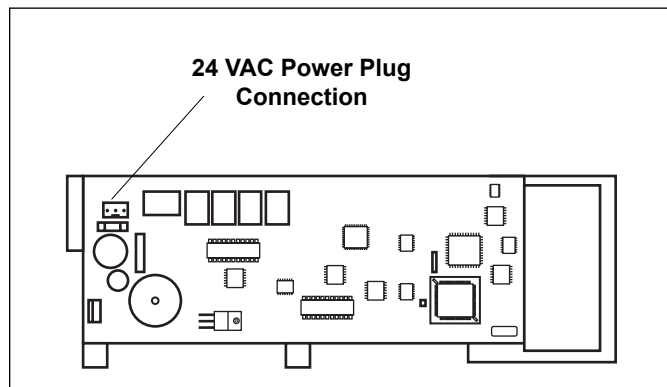

Figure 3. Power Center PCB (back view)
1. Plug the orange 24 VAC power plug from the transformer into its 3-pin terminal on the back of the Low Voltage Bezel. Mount the Bezel to the Power Center with the screws provided (see Figure 3).
4. Wire according to the Power Center PCB wiring diagram (see Section 4, Figure 3).